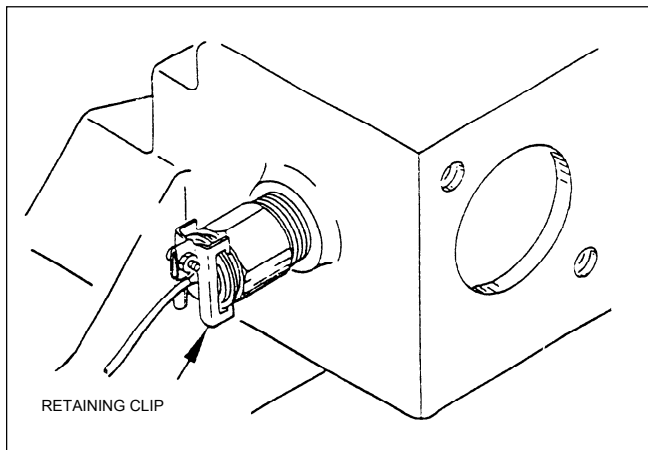

Figure 19. Capillary Tube Retaining Clip.
- b. Loosen the screw on the capillary tube retaining clip, then gently pry the clip apart until it comes free from the thermowell (see Figure 19).